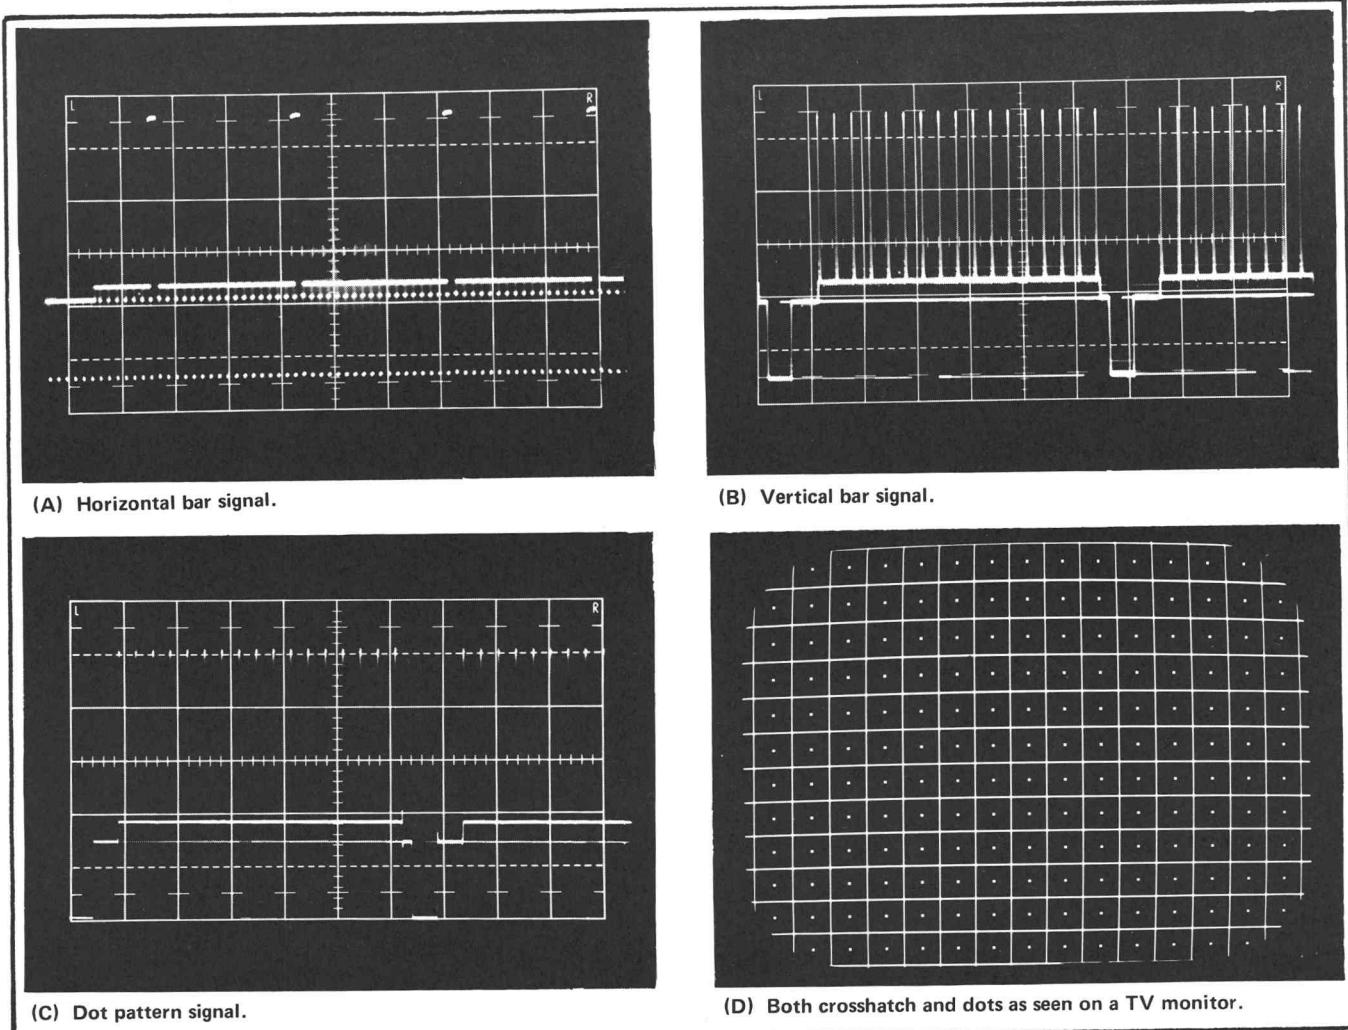

Fig. 2-12. Convergence pattern outputs.
8. Change the cable from the COMP VIDEO connector to the CONVERGENCE PATTERN connector on the Type R140. Change the Type R140 CONVERGENCE CROSS-HATCH switch to HORIZ. Set the Type 545B Time/Cm switch to 2 mSec and the 5X Magnifier ON. Note the single line out of every 17 with a white luminance level. See Fig. 2-12(A). Its position can be changed with the VERT POSITION control on the Type R140. These pulses correspond to the horizontal bars as seen on the monitor. See Fig. 2-12(D).
lines. The display should consist of a composite sync and blanking signal with 16 or 17 positive-going pulses along the line. See Fig. 2-12 (B). These pulses correspond to the vertical bars displayed on the monitor. See Fig. 2-12 (D).
10. Change the Type R140 CONVERGENCE DISPLAY selector from CROSSHATCH to DOT. The display should be similar to that seen in the previous step, but should have dim positive-going pulses. See Fig. 2-12 (C). These correspond to the dots as seen on a monitor. (Fig. 2-12 (D).)